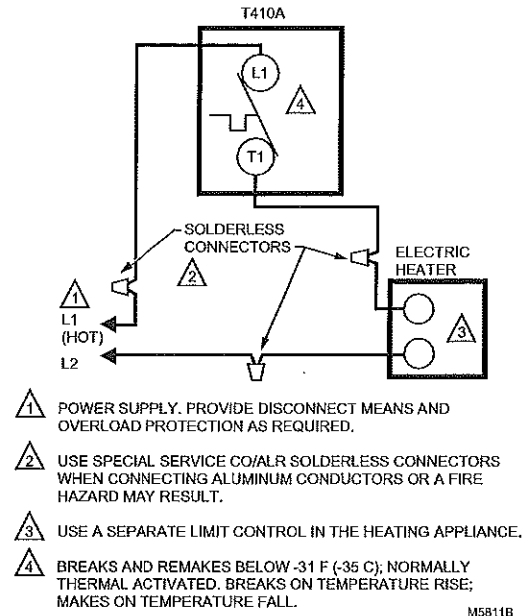

Fig. 2. Typical wiring connections for T410A.
4. Do not remove the T410 Thermostat Cover. Using wire connectors approved for No. 12 wires, make line voltage connections directly to the leadwires on the thermostat. See Figs. 2 and 3 for typical wiring connections.
3. Do not remove the T410 Thermostat Cover. Using wire connectors approved for No. 12 wires, make line voltage connections directly to the leadwires on the thermostat. See Figs. 2 and 3 for typical wiring connections.